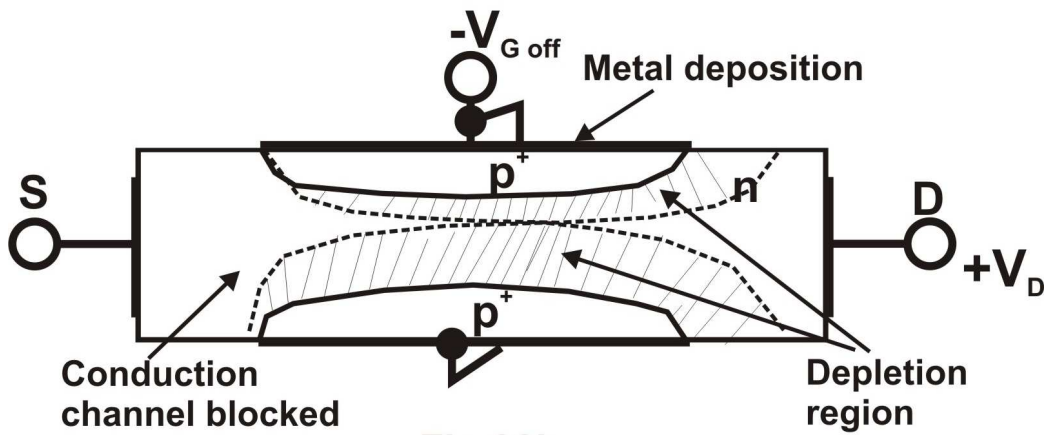

Fig.22b
As it can be seen, in a n-type semiconductor are implanted two islands of p type semiconductor, strongly doped. Then, the depletion region is more extended in n type semiconductor. A metallic film deposition is made on both heads of the structure becoming the Source (S) and the Drain (D) of JFET. Another metallic film deposition is made on the external edge of p type semiconductor, becoming the Gate (G). Now, if we apply a positive voltage on the Drain, a current made only by electrons (majority charge carriers in n type semiconductor) will be established between Source and Drain (I_D) via the conduction channel. Now, if we apply a negative voltage on the Gate, this voltage will be as a reverse biasing voltage applied on a PN structure, then the depletion region will extend in n type semiconductor and the cross area of the conduction channel will decrease. Then, the total number of charge carriers which give us I_D will decrease too! When, by increasing the negative Gate voltage, the depletion regions are in contact, the conduction channel is blocked and the I_D current become zero. This V_G voltage is named the **cut of** voltage (Fig.22b). Then, one of the most important static characteristic of a JFET is given by: